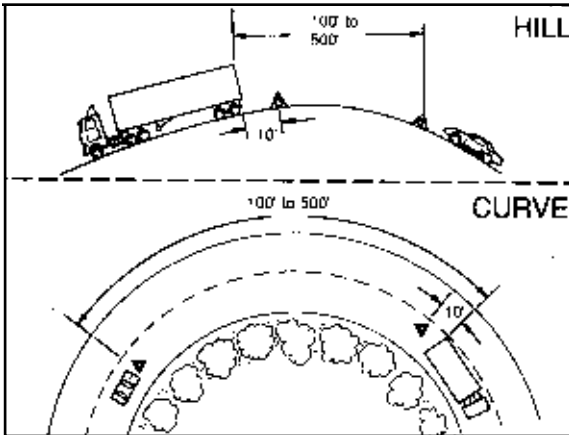

Figure 2-10
- If you stop back beyond a hill, curve, or other obstruction that prevents other drivers from seeing the vehicle, place warning devices within 10 feet of the vehicle and 100 to 500 feet toward the approaching traffic. (See Figure 2-10.)